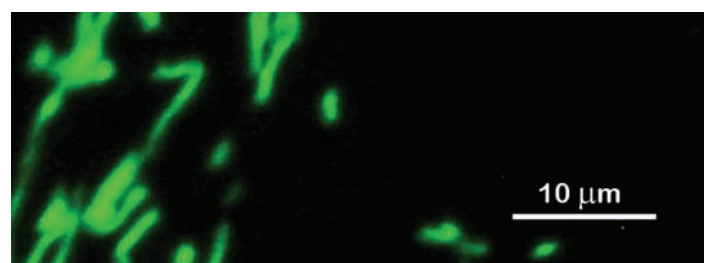

Figure 6. Completed scale bar with layer containing stage micrometer image removed.
10. Select the layer containing the original image of the stage micrometer and delete it by right-clicking on that layer and selecting “delete.” As shown in Figure 6, the scale marker and text that you added remain, because they are in separate layers.